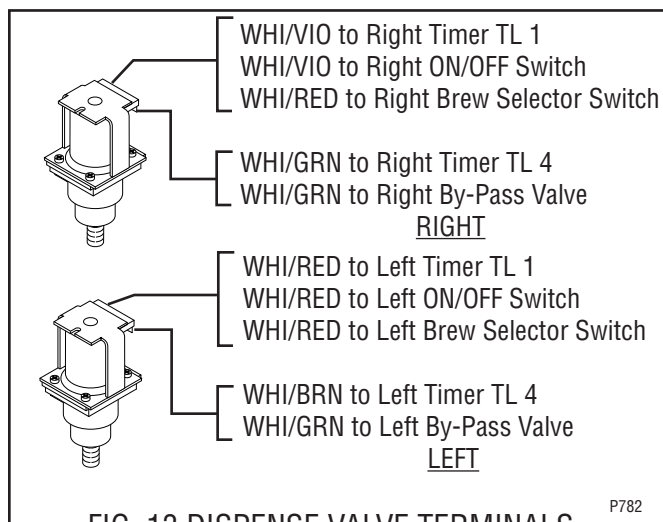

FIG. 13 DISPENSE VALVE TERMINALS
6. Refer to Fig. 13 when reconnecting wires.